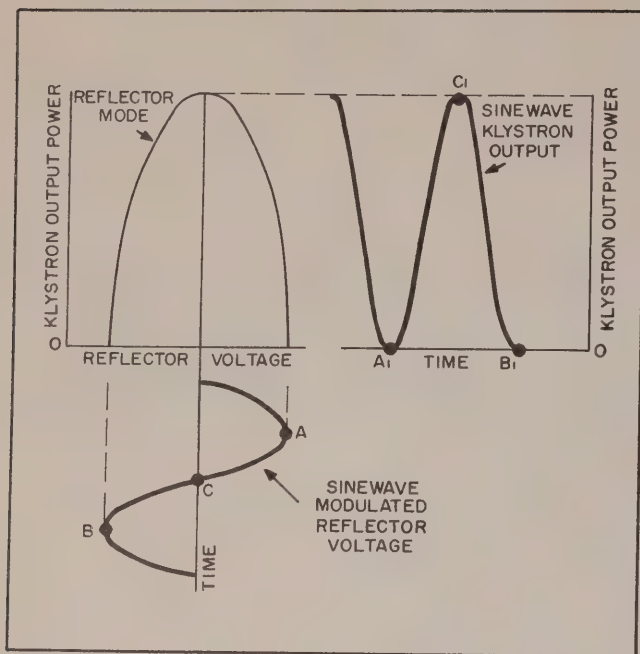
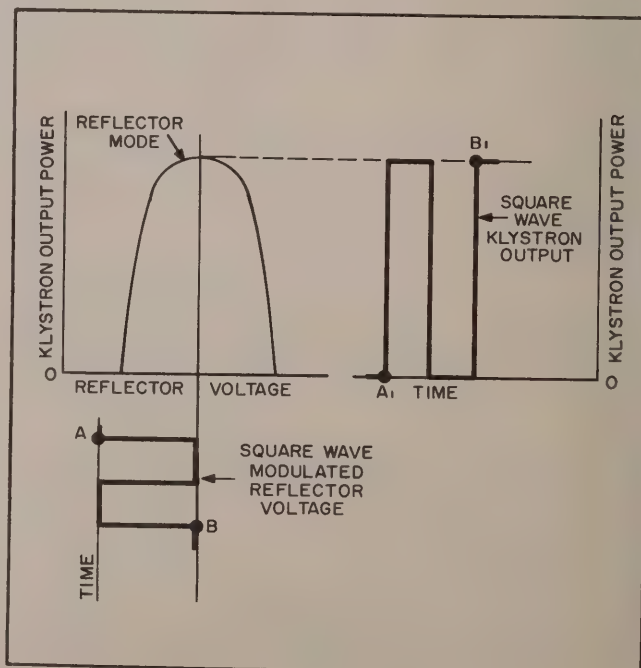

Figure 6-2. Reflector Mode, Sine-wave Modulation
Figure 6-3. Reflector Mode, Pulse and Square-wave Modulation
a. Figure 6-2 illustrates sine wave modulation of the klystron reflector mode. At instant A, reflector voltage is at a maximum within the reflector mode and klystron power output  $A_1$  is zero. At instant B, reflector voltage is at a minimum within the reflector mode and klystron power output  $B_1$  is zero. At instant C, reflector voltage is in the center of the reflector mode and klystron power output is at a maximum. For every sine wave cycle which modulates the reflector mode, two cycles appear at the klystron output. For this reason, the sine wave generator is designed to oscillate at one-half the MOD FREQ SEL front panel frequency designation, when the MODULATION SELECTOR is in the AMPLITUDE position.
b. Figure 6-3 illustrates pulse and square wave modulation of the klystron reflector mode. At instant A, reflector voltage is outside of the reflector mode and klystron power output  $A_1$  is zero. At instant B, reflector voltage is in the center of the mode and klystron power is at the maximum. Reflector modulation voltage is determined by the modulator and keyer.
6-19. The keyer section serves to set the klystron tuner grid and reflector voltages at the proper voltage level for the trainer operating frequency and modes of operation. These are determined by the trainer operating control settings. For noise and sine wave modulation, the keyer biases the klystron output as shown in figure 6-2. For pulse and square wave modulation, the keyer biases the klystron output as shown in figure 6-3. During swept frequency operation, sweep inverter V301 receives a portion of the sweeper signal from the output of cathode follower V211 (see paragraph 6-17), through switch S303. This signal is then fed through the appropriate networks, depending on the position of SWEEP SECTOR switch S302, to cathode follower V304A. The swept frequency signal is then fed to summing amplifier tube V305, where the d-c level and the sweep are added. The d-c level is determined by the position of the RF FREQ (R315B), LO LIM SET (R353), and HI LIM SET (R335) control network. The summed
signal is then fed to cathode follower V303, which feeds it to the klystron reflector through a resistor-capacitor network consisting of R344, R342, C311 and C309, for AMPLITUDE and NOISE modulation. In the case of SQUARE or PULSE modulation, keyer V302 is activated. The keyer serves to shift the pulse or square-wave modulation reflector voltage so that its base line (time) appears just before the beginning of the reflector voltage (see figure 6-2). The reflector protective diode, V304B, prevents the reflector voltage from going positive (a condition which would ruin the klystron). Should the reflector voltage become positive, V304B conducts and acts as a short circuit, removing the positive voltage from the reflector. Voltage reference tube V306 is connected between the screen grid and cathode of the summing amplifier. Since summing amplifier V305 is essentially a d-c amplifier, small variations in screen grid voltage will cause undesirable large plate current variations. Tube V306 prevents this action by keeping the screen grid voltage on summing amplifier V305 constant. During fixed frequency operation, no swept frequency signal is available, and only steady d-c levels are applied to the tuner grid and the reflector. The d-c levels are determined by the setting of the RF FREQ control. The fixed frequency reflector d-c level and the sine wave, square wave, or pulse modulation signals are fed to the reflector through the same circuitry as described above, for keyer swept-frequency operation.